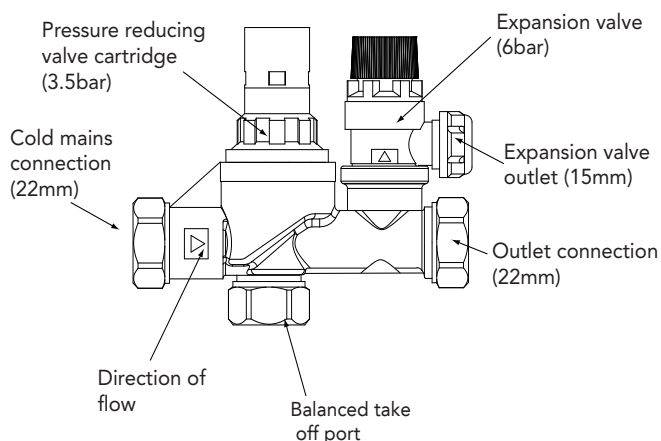

Figure 1 - Cold water combination valve
3.3 COLD WATER COMBINATION VALVE (FIG 1)